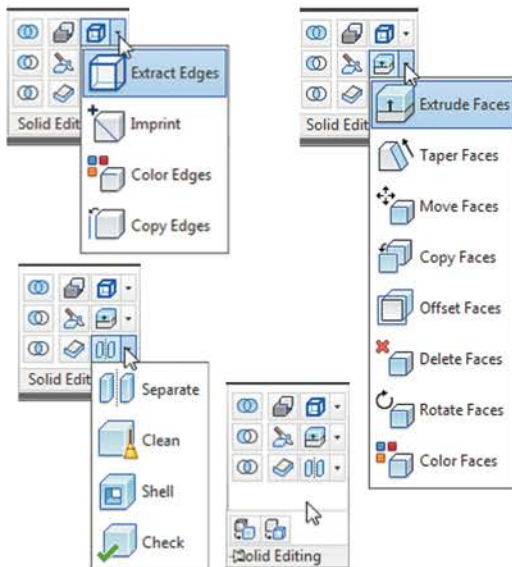

Fig. 19.1 The Home/Solid Editing panel
The **Solid Editing** tools can be selected from the **Home/Solid Editing** panel (Fig. 19.1).
6. Click the **Extrude Faces** tool icon in the **Home/Solid Editing** panel (Fig. 19.1). The command sequence shows:
2. *Click* on the **Move Faces** tool in the **Home/Solid Editing** panel (see Fig. 19.1). The command sequence shows:
2. Click on the **Offset Faces** tool icon in the **Home/Solid Editing** panel (Fig. 19.1). The command sequence shows:
2. *Click* on the Copy Faces tool in the Home/Solid Editing panel (Fig. 19.1). The command sequence shows: